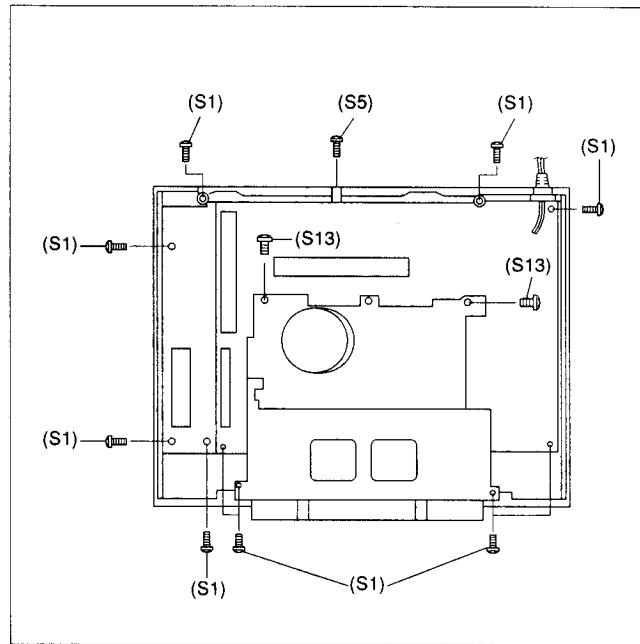

Fig. 1-3-1
- (1) Remove the Top cover, Front panel assembly, CN1 of the SW/JACK board assembly and CN3/CN5 of the DISPLAY board assembly.
- (2) Take out 10 screws (S1), 2 screws (S13) and 1 screw (S5) as shown in Fig.1-3-1.